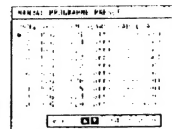

Fig. 23.
- 3 Select Manual Programme Preset with Δ or ∇ and press OK. The MANUAL PROGRAMME PRESET menu appears. (See Fig. 23.)